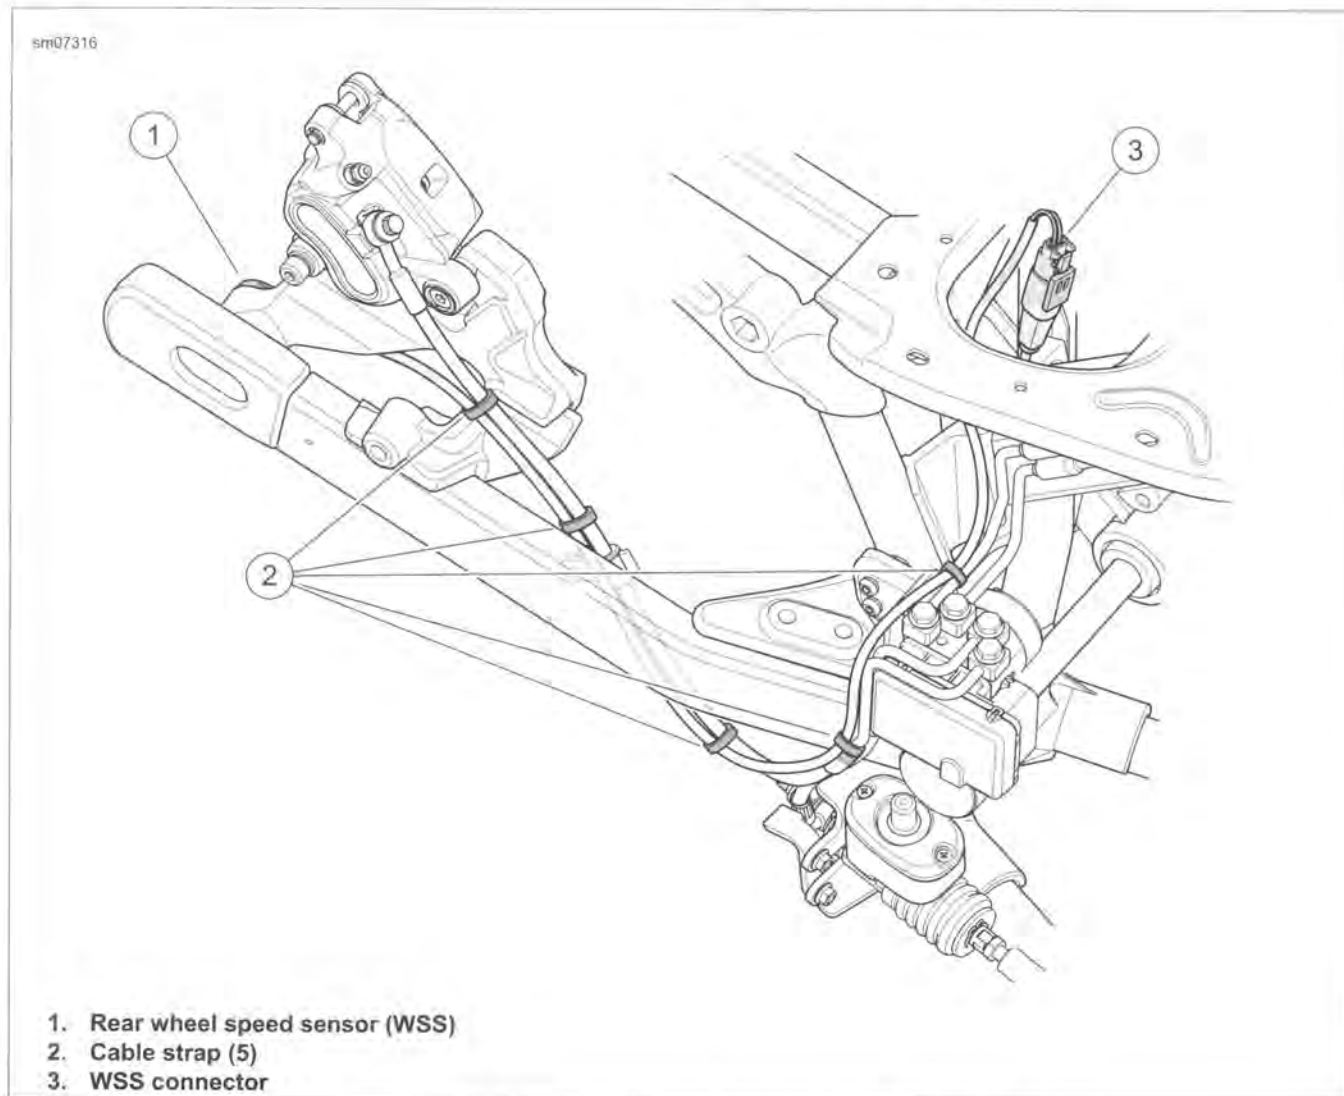

Figure 2-74. Rear Wheel Speed Sensor and Cable Routing
7. See Figure 2-74. Secure WSS cable to rear brake line with cable straps (2).